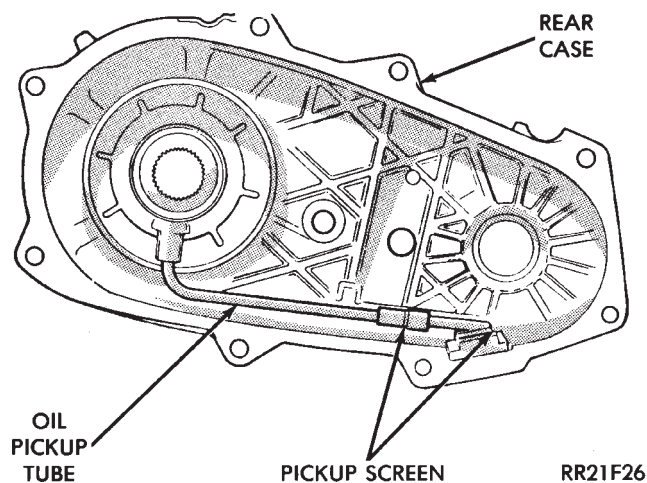

Fig. 60 Pickup Tube, Oil Screen And Pump Installation
(44) Insert oil pickup tube in oil pump. Then attach oil screen and connecting hose to pickup tube (Fig. 60).
(45) Install assembled oil pump, pickup tube and screen in rear case. Be sure screen is seated in case slot as shown (Fig. 60).
(46) Install magnet in front case.
(47) Apply 3 mm (1/8 in.) wide bead of Mopar gasket maker, silicone adhesive sealer, or Loctite 518 to seal surface of front case.